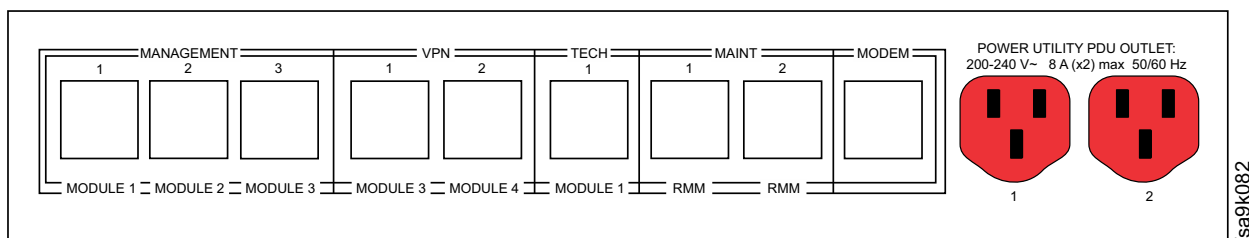

Figure 30. Utility patch panel – model 415
- Figure 30 illustrates the utility patch panel for model 415.